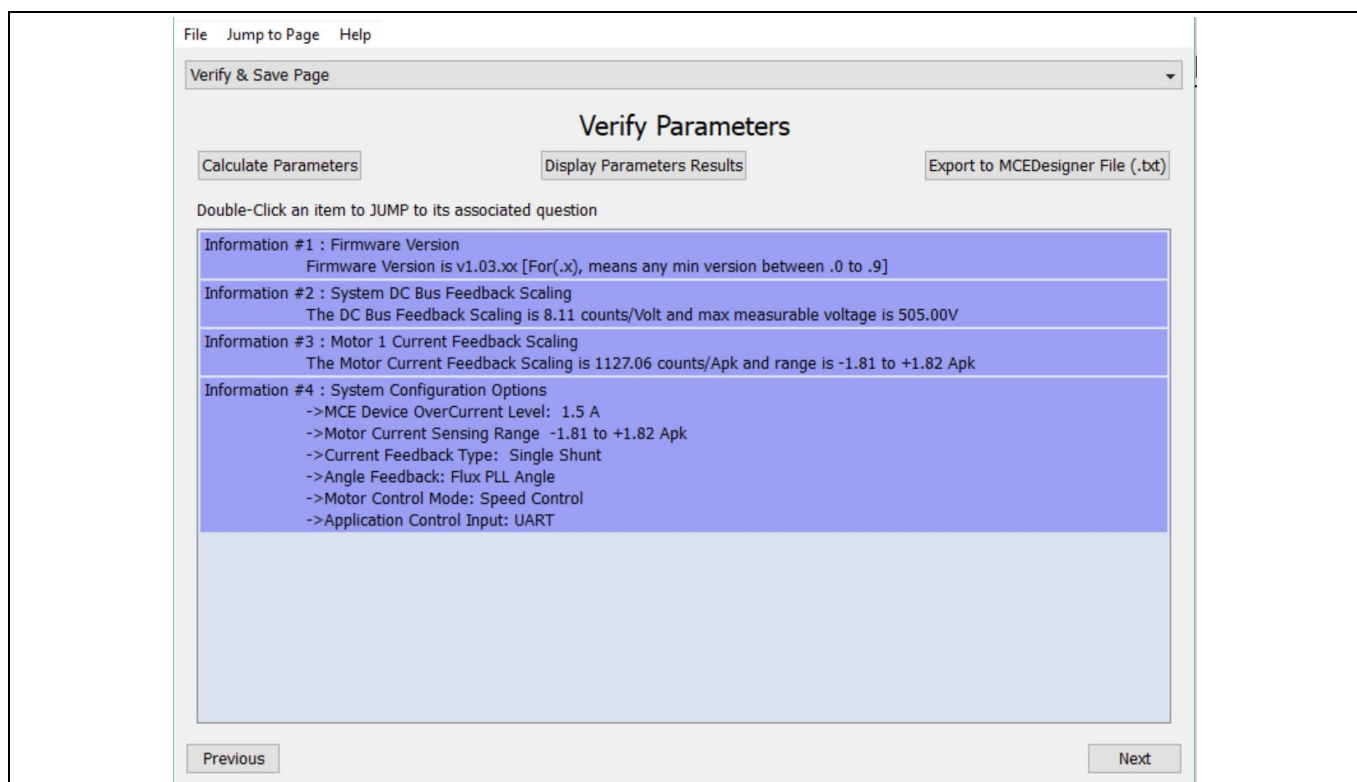

Figure 7 MCEWizard verify and save page
- After system and operating parameters are set, go to the “Verify & Save Page” and click on “Calculate” button. If no errors are reported, then save the drive parameter set in your project directory by clicking “Export to Designer file (.txt)” (Figure 7); if some errors are detected, double-click on the error message (highlighted in RED) and adjust the related parameters. Saved Drive System Parameter File will be later used for programmers.